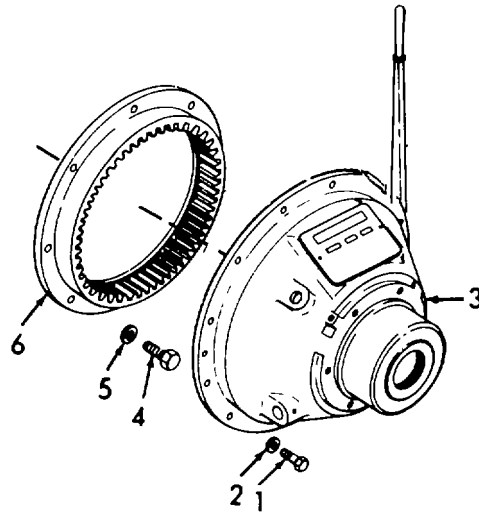

Figure 3-102. Clutch Replacement, Removal/Installation.
**a. Removal.** (Refer to figure 3-102).
- (1) Support the weight of power take-off assembly with a rope sling and chain hoist.
- (2) Engage the clutch with the hand lever to hold the clutch facings in place.
- (3) Remove twelve bolts (1) and twelve lockwashers (2) securing the power take-off (3) assembly to the engine flywheel housing.
- (4) Screw two of clutch housing attaching bolts into the tapped holes provided in the flange of the clutch housing and push power take-off assembly away from flywheel housing. Pull power take-off assembly straight back away from the engine.
- (1) Refer to figure 3-102 and install clutch driving ring (6) and secure to the flywheel with sixteen bolts (4) and sixteen lockwashers (5). Tighten bolts to 71-75 lb-ft (96.9-10.24 Nm).
- (2) Support power take-off assembly with a rope sling and chain hoist. Position power take-off assembly at the rear of the flywheel housing with clutch drive shaft in line with pilot bearing in the flywheel.
- (3) Push power take-off forward and guide forward end of drive shaft straight into the clutch pilot bearing and engage the teeth on the outer diameter of clutch facings with the teeth in the inner diameter of clutch driving ring.
- (4) Install power take-off (3) on flywheel housing and secure with twelve bolts (1) and twelve lockwashers (2). Tighten bolts to 46-50 lb-ft (62.8-68.3 Nm).
- (5) Remove chain hoist and rope sling.
- (6) Before applying a load and with clutch released, rotate drive shaft by hand to be sure it rotates freely.
- (7) Adjust the clutch per paragraph 3-49.